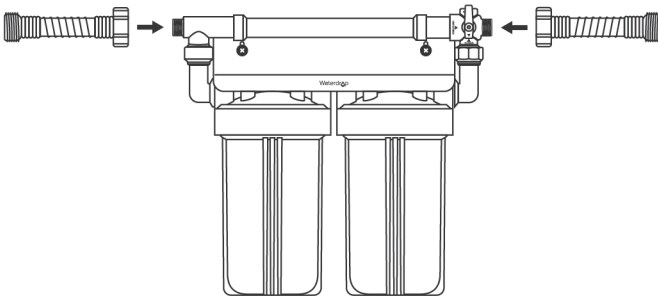

Figure 2
3. After the system is placed, it can be connected to the water inlet and outlet pipes. The water inlet and outlet joints of the system are both 3/4" MNPT threads. Please choose the appropriate connection method according to the size of the pipes in your home. Pay attention to the direction of water flow during installation. It is recommended to use a hose with standard threads to connect the water outlet end and the washing nozzle. **(Figure 2)**